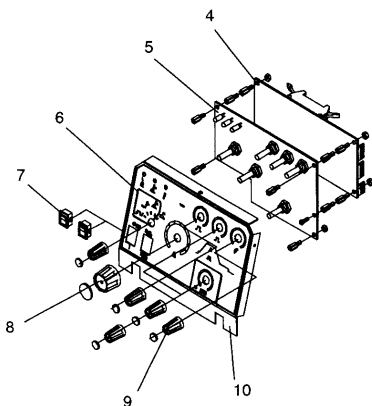

Fig 1
2. Remove the 4 nuts to detach the Logic PCB (item 4, Fig 1). Note the washers on both sides of this PCB at one corner only.